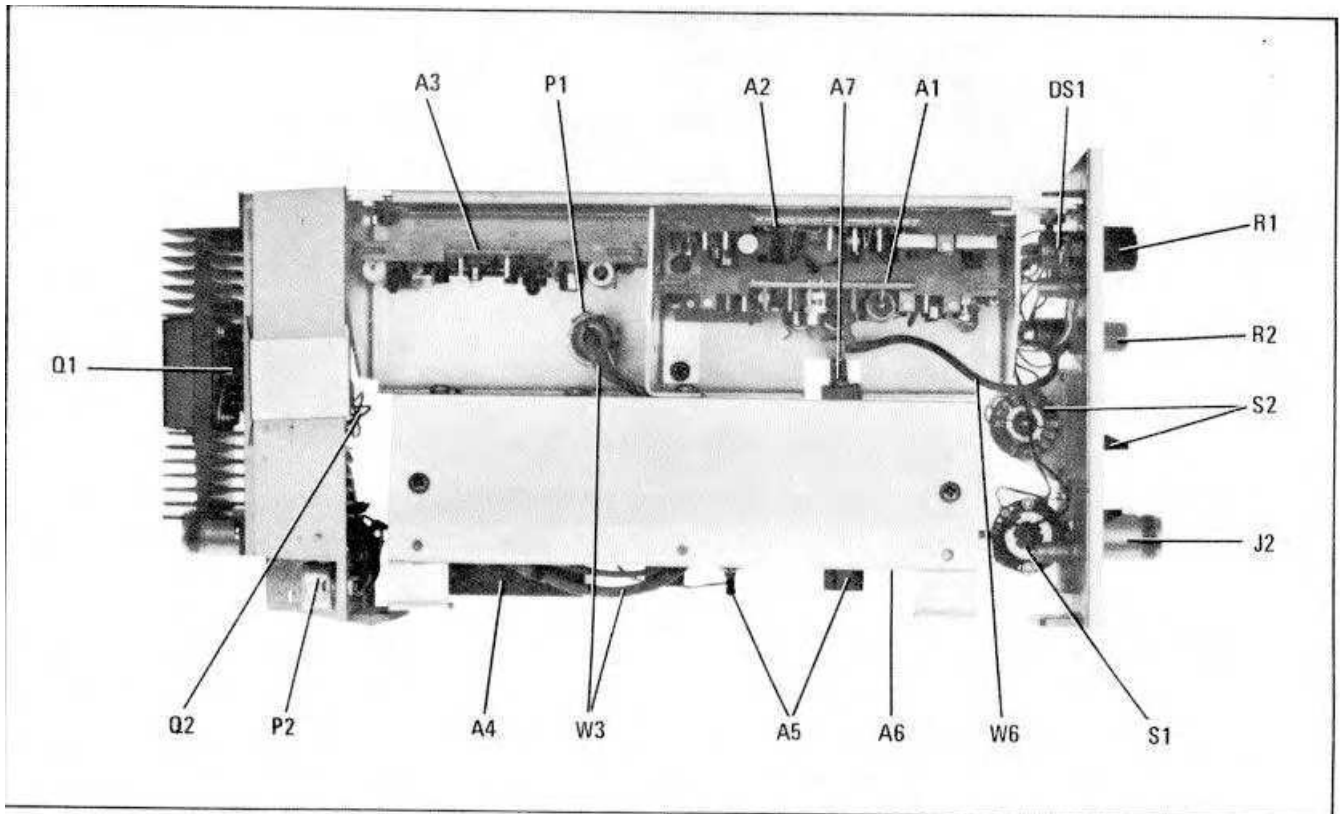

Figure 9-10. Location of Major Assemblies, Top View (Option 001)
- Replace Figure 8-20 with Figure 9-10.